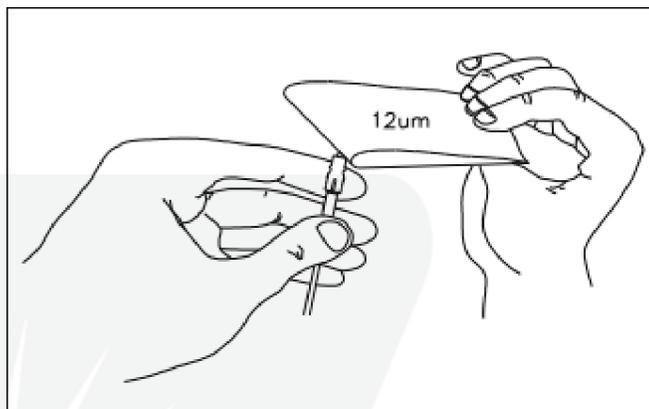

Figure 13: Use only the weight of the film as pressure.
15. Hold the connector in one hand and a sheet of yellow 12 micron lapping film in the other. Very gently and with very little pressure, complete 10-15 circular strokes, 1 mm in diameter, to remove any sharp burrs or “hackle” from the cleaved fiber. (See Figure 13).